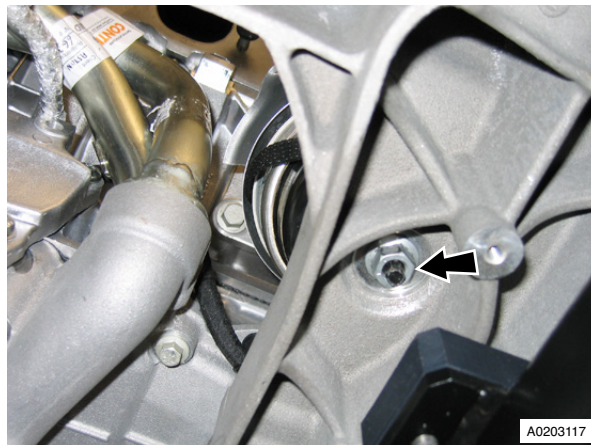

Fig. 1
2. Remove engine mount lower fixing (nut x1) (see Fig. 1 - LHS shown).